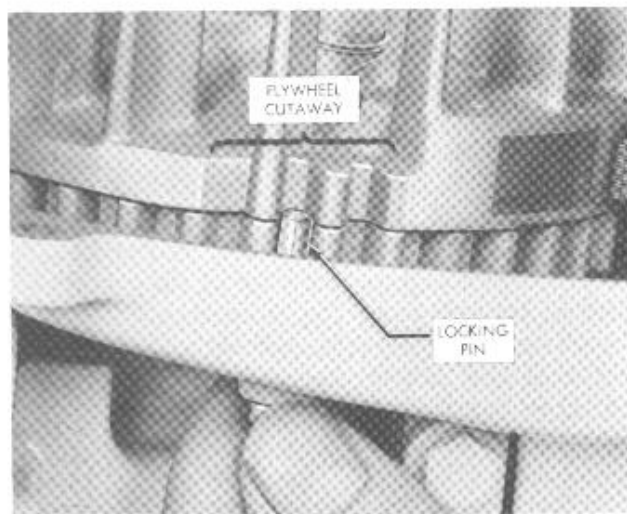
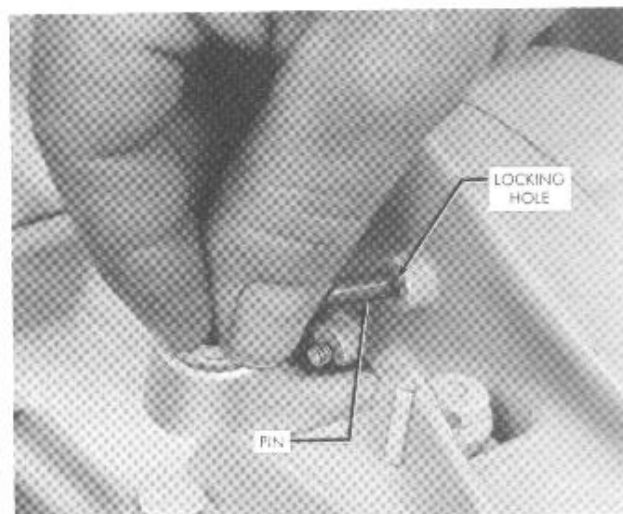

Figure 2. Locking Flywheel
Figure 3. Locking Pin Cutout in Flywheel
1. Remove the clutch guard and bar adjusting bolt. Lock the flywheel by inserting a pin or screw through the locking hole beneath the crankcase (figure 2). Turn the crankshaft until you can slide the pin or screw into the cutaway section of the flywheel. Figure 3 shows how the pin or screw fits into the flywheel. Remove the clutch rotor by turning the nut clockwise with a wrench. Remove the sprocket and sprocket washer.